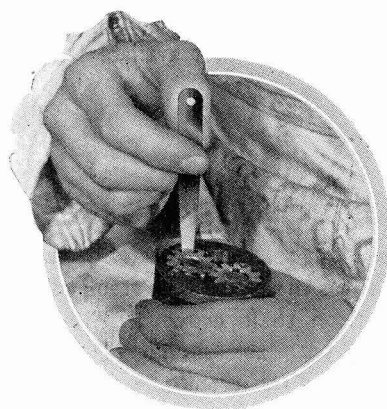

Fig. 4.
1. Measure the radial clearance between the teeth of the gears and the pump body (see Fig. 4). This should not be more than .006 in. (.15 mm.).